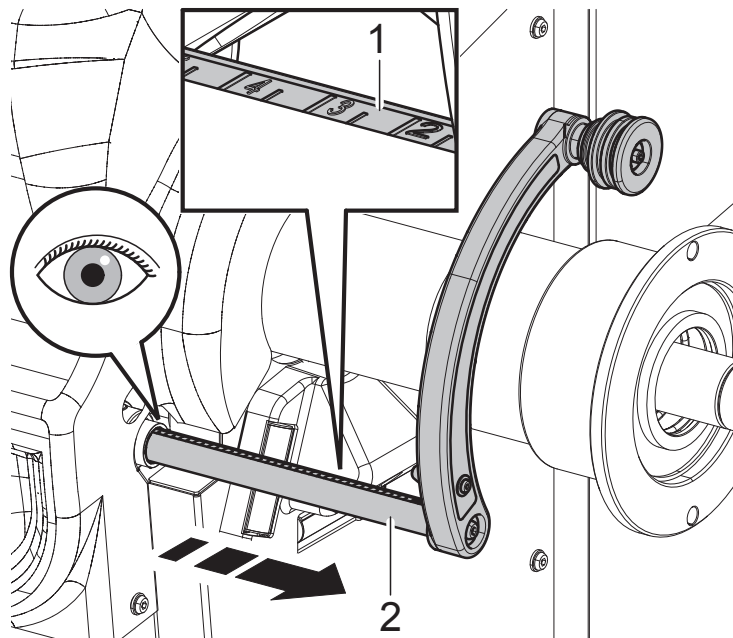

Fig. 56
2. read the value indicated on the graduated scale (Fig. 56 ref. 1) secured to the arm of the distance-diameter caliper (Fig. 56 ref. 2);